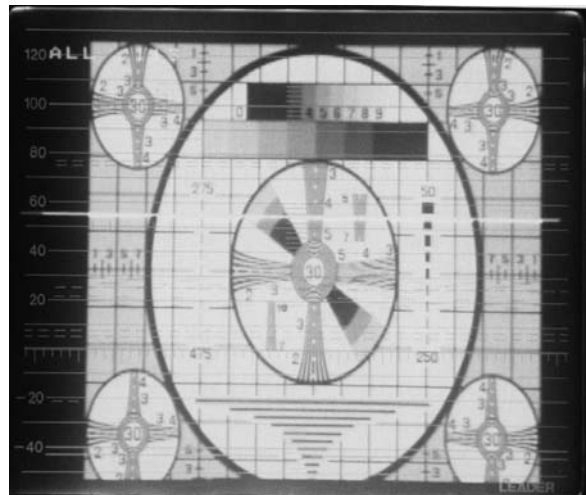
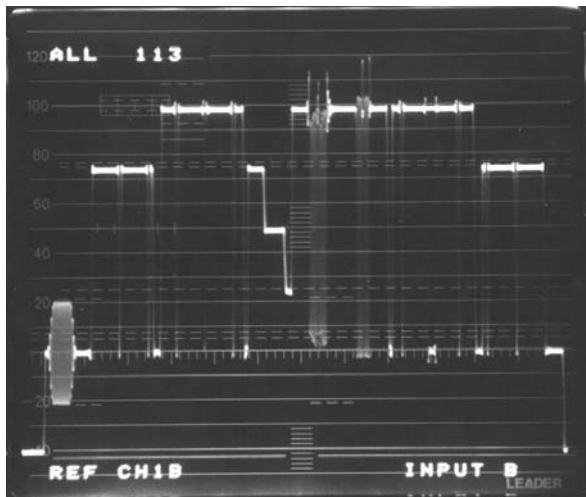
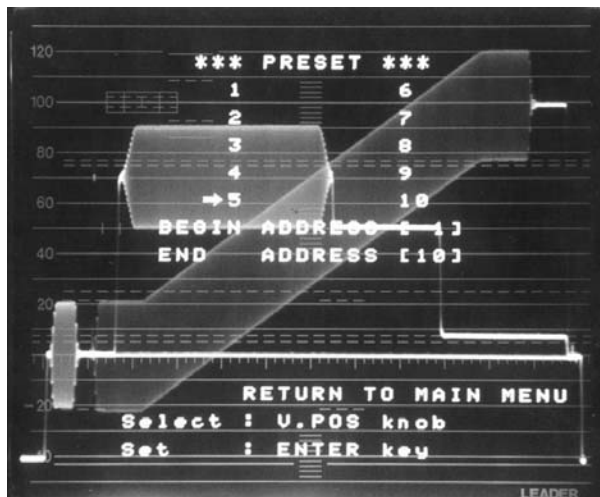
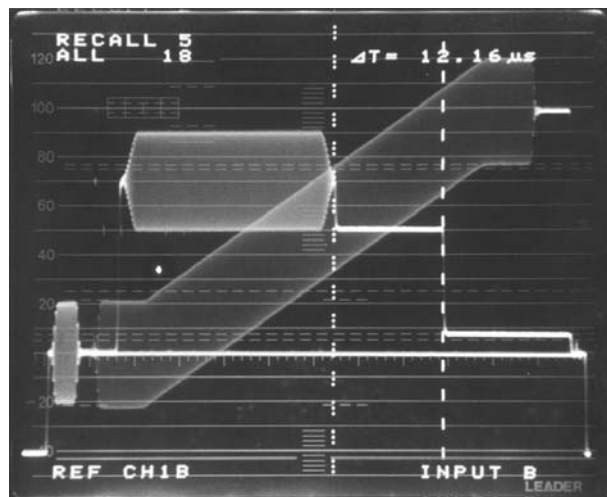

Figure 1-9 Picture display of monoscope signal. The horizontal line is the line-select strobe.
Figure 1-11 Waveform of the line selected in Figure 1-9 (lines 113 of Fields 1 and 2).
Figure 1-17 PRESET menu allows numbers 1-10 to be assigned to any give instrument setup.
Figure 1-18 Preset 5 recalled. In this case, a setup involving line select with a two-line window to show lines 18 and 19 of both fields superimposed.
selected input. This is extremely useful in identifying program content to reinforce the operator's knowledge that a particular feed is indeed carrying the correct signal. Figure 1-9 shows the picture display for a monoscope signal from Leader's 435B generator. Note that the picture is almost square. Picture width is the same as the active display (between blanking edges) in the 1H waveform and picture height has been set for maximum display area. But, as you can see, picture quality is more than adequate to spot picture content. (A white phosphor is available for the 5222 as well). A particular advantage comes up in LINE SELECT operation. Figure 1-9 shows a bright horizontal line to highlight the selected line. It has been set in this case to pass through the upper resolution wedge at about 350 lines and 600 lines in the Hi Res wedge to the right.
An example of the use of line select in the active part of the picture is shown in Figure 1-9. Here the LINE SELECT key was touched while the PICTURE display was in use. Then the V POS/REF knob was adjusted to place the highlighted lines at the point where they cross the top-center resolution wedge of the monoscope pattern at 450 TV lines. Note that if ALL is selected for FIELD SELECT and the LINE WINDOW is one line, you will be looking at two lines. In this case, lines 113 of Fields 1 (3) and 2 (4). Pressing WFM calls up the waveform of those lines. See Figure 1-11. The partial staircase is formed where the lines cross through part of the diagonal four step gray scale to the upper left quadrant. In the center of the waveform is a burst of sine waves for 450 TV lines (5.6 MHz). And to the right of this burst another where the selected lines pass through 600 TV lines (7.5 MHz) of the resolution wedge in the upper right quadrant. An example of line selection during the vertical blanking interval will be shown in Figure 1-18.
Time cursors can be set for μ s (ms for V rate observations). And these adjust automatically for the time base in use, including MAG. Figure 1-18 shows the time cursors used to measure the gray pedestal on the VIRS signal. The choice of level or time cursors is made by touching the $\Delta V/\Delta T$ key; the sequence is ΔV , ΔT , cursors off.
make all your set up adjustments for a particular observation, call the PESET menu (Figure 1-17), and assign the preset number of your choice. In this case, the arrow was placed opposite 5 to assign that number to the setup. To recall 5, simply press RECALL repeatedly until RECALL 5 appears at the top-left of the screen. See Figure 1-18. The 5222 had returned to a line select situation wherein line 18 of both fields was recalled. In this case, the line select window had been set to two lines so that ines 18 and 19 appear superimposed. Cursors had been set as shown and are part of the recall memory.